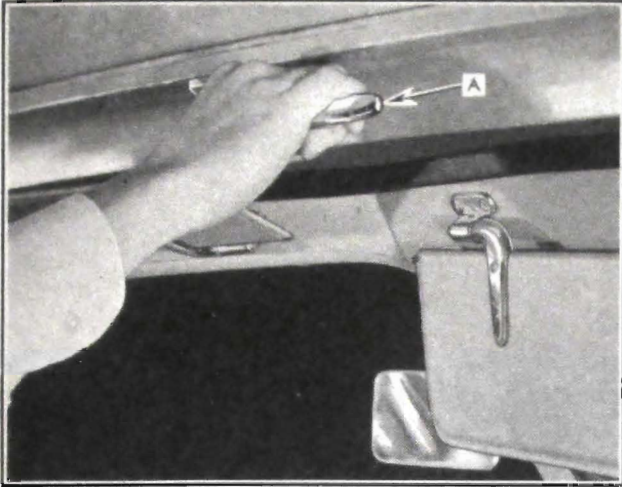

Fig. 1-83. Convertible Top Release Lever—Series 50-70
- To operate, unfasten the three toggle latches at the top of the windshield on Model 44-C, or pull the locking handle "A", Figs. 1-83 and 1-85, in the center of front roof rail rearward on Models 56-C and 76-C, and push front of top up about an inch so that it is free from windshield